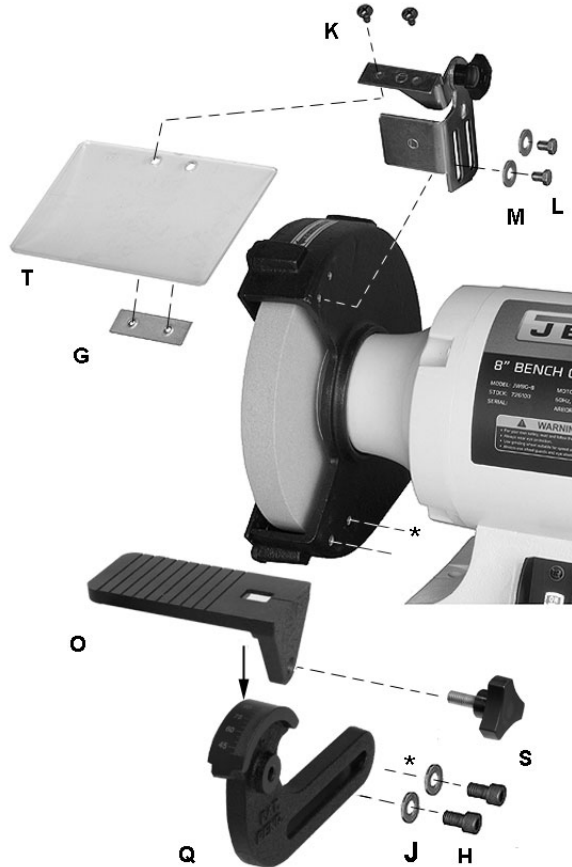

Figure 4: completion of assembly
Refer to Figure 4.
**Note:** There is a *left* and a *right* tool rest. Refer to Figure 4 to ensure that you install them correctly. (The beveled edge of tool rest faces the wheel.)
1. Install the left tool rest bracket (Q) by threading two 5/16 x 3/4 hex cap screws (H) through two 5/16 flat washers (J) and the tool rest bracket (Q) into the wheel housing.
2. Place the tool rest (O) over the bracket (Q) so that the scale is seen through the cutout. Secure with knob (S).